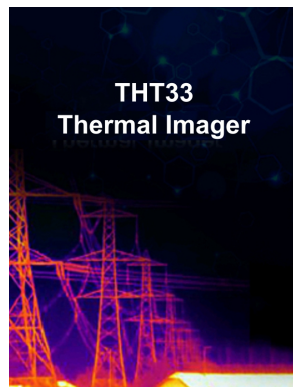

Fig. 2: Instrument's initial screen
- Press and hold (>2s) the key to switch on/off the instrument. The initial screen (see Fig. 2) is shown on the display for approx. 5s; subsequently, the normal measuring screen appears.